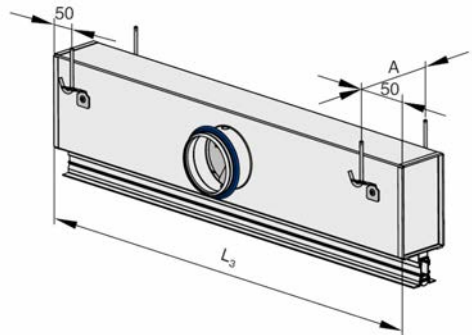

Fig. 5: Plenum box suspension
- ▶ Fix the suspension parts such as ropes, cables or metal hangers (Fig. 5/1) to the ceiling.